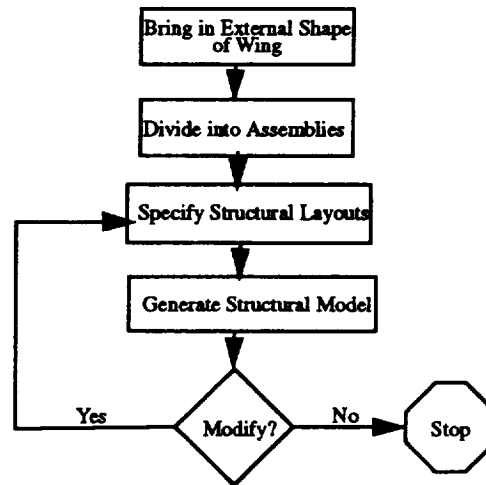

FIGURE 1.3. Process for modeling the structural wing.
The purpose of the S(tructural)-WING editor is to develop structure for wings, vertical tails, horizontal tails and tip-fins. Figure 1.3 diagrams the modeling approach of the S(tructural)-WING editor. The
Step 1 brings in the external shape of the wing. Step 2 divides the wing into one or more assemblies. Step 3 specifies the structural layout for each assembly; that is, its wing box, and rib and spar patterns. Step 4 uses the structural layouts defined in the previous step to generate the structural model. While not shown in figure 1.3, the user can save the layout of the structural wing in a file at any time during the modeling process. A saved layout consists of the planform definition, the rib and spar specifications, and any other information that is needed to re-create the structural model.